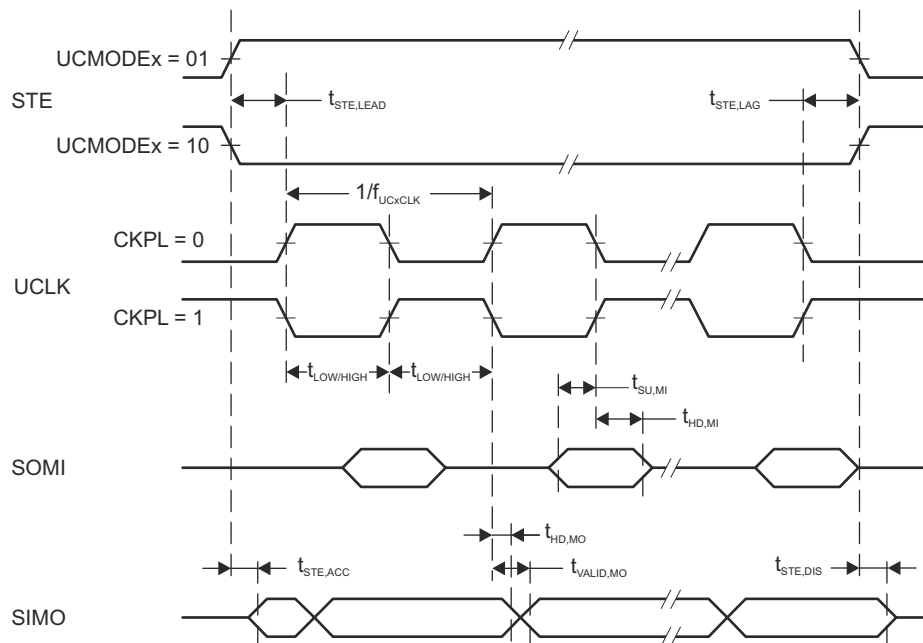
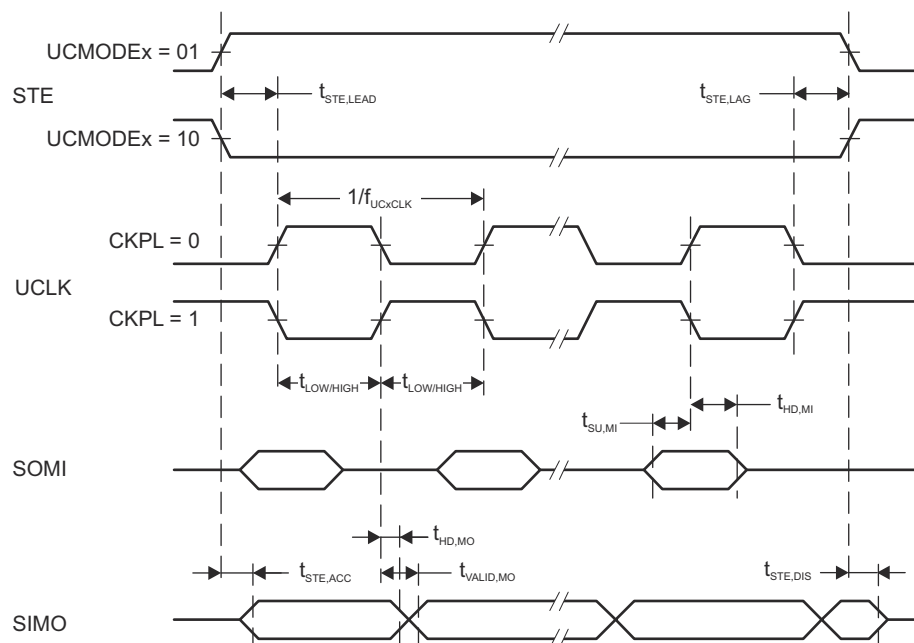

Figure 8-13. SPI Master Mode, CKPH = 0
Figure 8-14. SPI Master Mode, CKPH = 1
- (2) Specifies the time to drive the next valid data to the SIMO output after the output changing UCLK clock edge. See the timing diagrams in Figure 8-13 and Figure 8-14.
- (3) Specifies how long data on the SIMO output is valid after the output changing UCLK clock edge. Negative values indicate that the data on the SIMO output can become invalid before the output changing clock edge observed on UCLK. See the timing diagrams in Figure 8-13 and Figure 8-14.